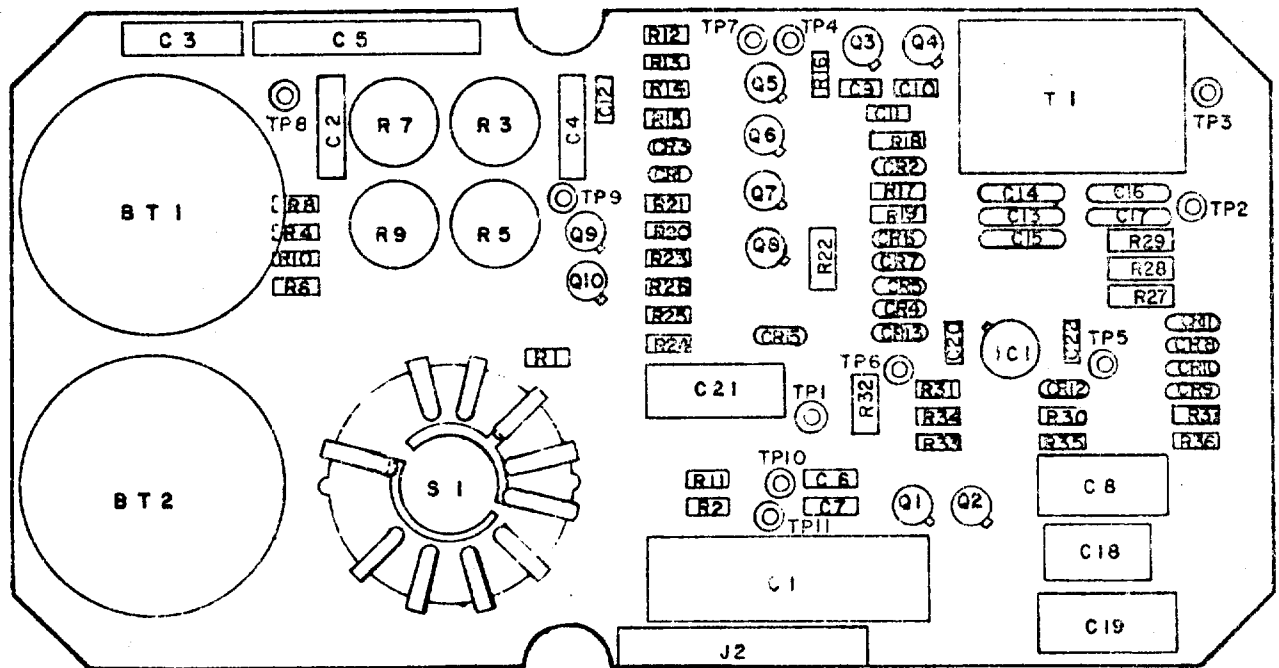

FIGURE 7-2. PARTS LOCATION, PRINTED WIRING BOARD ASSEMBLY 1A1
c. Parts Location. Figure 7-2 shows the printed wiring board assembly 1A1, parts location for all components within the dotted lines of Figure 7-1 and test point locations.